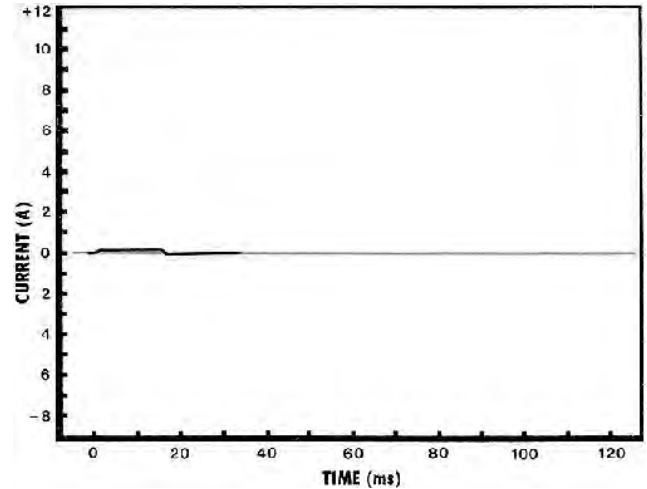
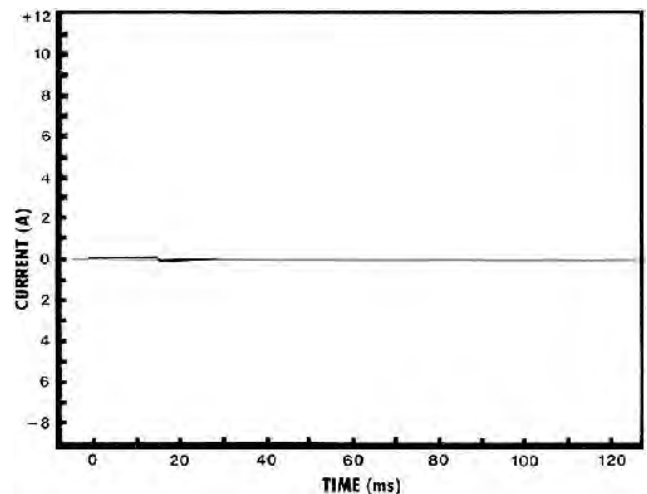

FIGURE 3. Current Delivered to a Well-Grounded Cow Touching a 5.4 km Well-Insulated Fence.
FIGURE 5. Current Delivered to a Normally-Grounded Cow Touching a 5.4 km Well-Insulated Fence
**Electrical Charge:** FIGURES 3 to 6 show the current output of the Dyna-Charge Super 21 when a cow touches 5.4 and 16 km (3.3 and 10 mi) lengths of well-insulated, single wire, fence. FIGURES 3 and 4 are for an animal resistance of 0.5 kΩ, which represent the most extreme condition of a cow standing in water and licking the charged wire, while FIGURES 5 and 6 are for an animal resistance of 4 kΩ, representing more normal ground conditions. The shock intensity is related to the peak current in the pulse. The higher the peak current, the more intense will be the shock.